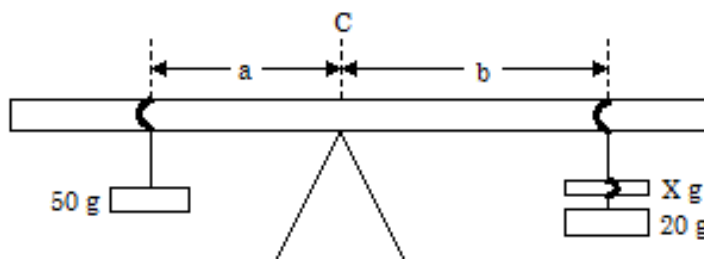

Fig. 1
- Suspend the 50 g mass on one side of the metre rule, and 20 g together with the dry cell on the other side of the metre rule adjusting their position until the metre rule balances horizontally, as shown in Figure 1 below.